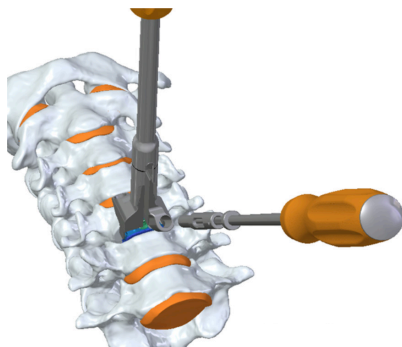

FIGURE 8
1. The awl can be used with the DTS guide as well, for a fixed angle delivery (Figures 8 & 9)